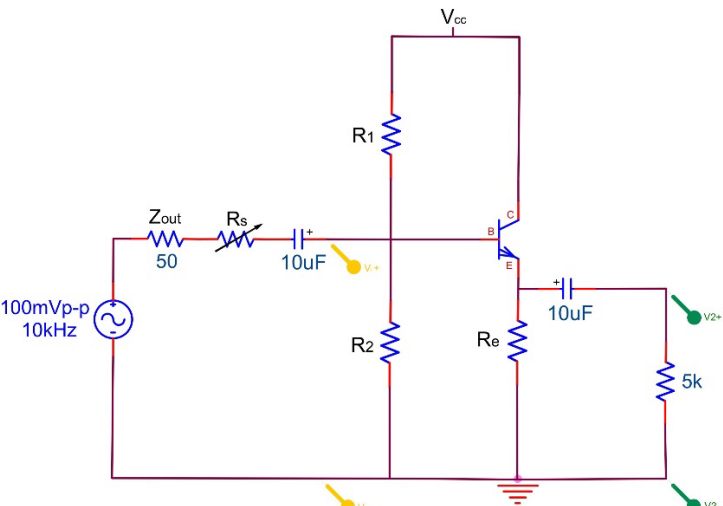

Figure 8.6
5. Return the signal generator voltage output to 100 mVp-p. Measure and record the output voltage of the amplifier. This is v_1 . Leaving the signal generator voltage constant, insert increasing resistor values in series between the generator output and the amplifier input (see Figure 8.6) until the output of the amplifier drops approximately to one half v_1 . Record this value as v_2 . Calculate the input impedance of the amplifier using the following equation: